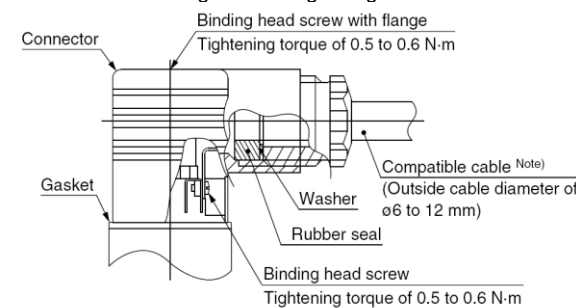

Figure 5
- Tighten screws and fittings according to Figure 5.